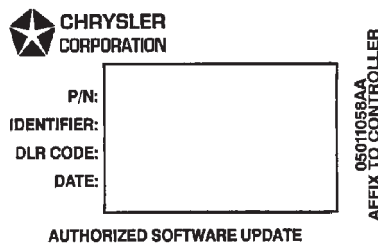

FIGURE 1
4. Type the necessary information on the “Authorized Software Update Label” p/n 05011058AA (Figure 1). Attach the label to the PCM and cover the label with the clear plastic overlay.